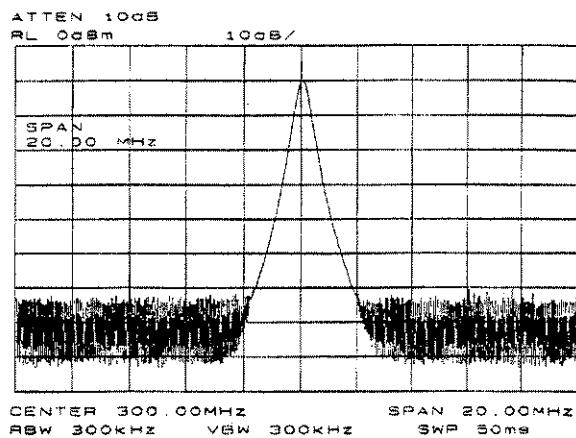

Figure 1-4. Frequency Span Reduced to 20 MHz
2. Set the frequency span. Press **SPAN**. Note that **SPAN** is now displayed in the active function block, identifying it as the current active function. To reduce the frequency span—for example, to 20 MHz—either key in 20 **MHz**, or use the step down-arrow key to “step down” to this value. (Like data keys, step keys can also be used to change the numeric value of the active function.) The resulting display is shown in Figure 1-4. Note that the resolution and video bandwidths are coupled to the frequency span; they are automatically adjusted to appropriate values for a given span. Sweep time is also a coupled function.